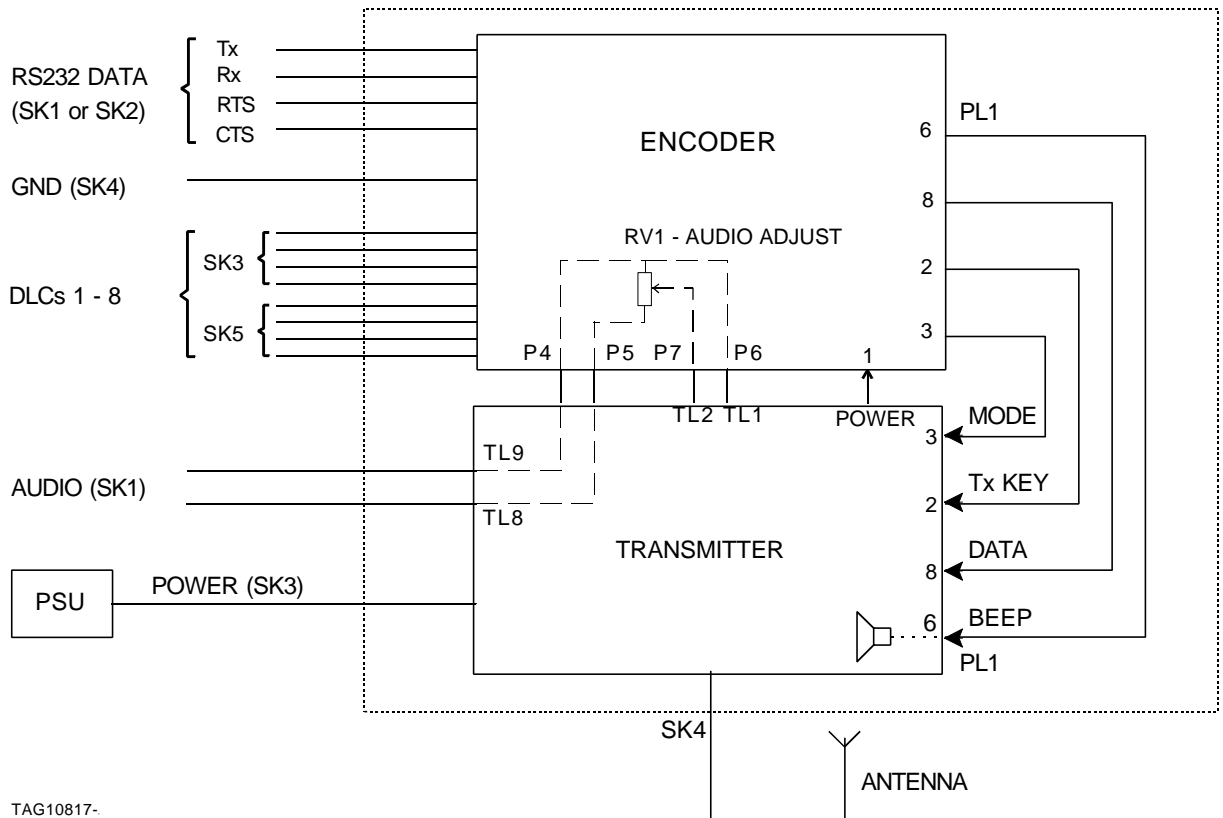

Figure 1: Encoder Connections
11. Figure 1 illustrates Encoder input / output connections. Power (+5V) is supplied to the Encoder PCB from the Transmitter PCB on PL1-1 and ground is PL1-7.